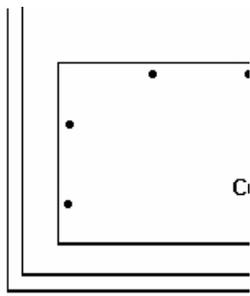

Figure 22
14. Using factory predrilled mounting holes, were possible else drill the appropriate mounting holes in the frame as shown, stay away from the coils and compressor when drilling. Attach water valve to the frame as shown in Figure 22. **Tip** : If space is limited attach icemaker fill line to valve before installing. You may need to reposition the eliminator tube on models with an internal condenser. Remember, finger tighten the compression fitting, then tighten with wrench an additional 1/4 to 1/2 turn. **DO NOT OVER TIGHTEN**, this will cause leaks and possible property damage.